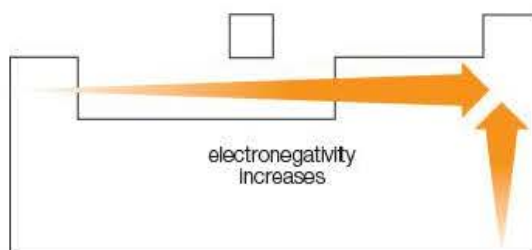

Figure 8.3 ▲
- 1 Use Figure 8.3 on page 127 and the electronegativity values in Table 8.1 to predict the polarity of the bonds in these molecules: H_2S , NO , CCl_4 , ICl .